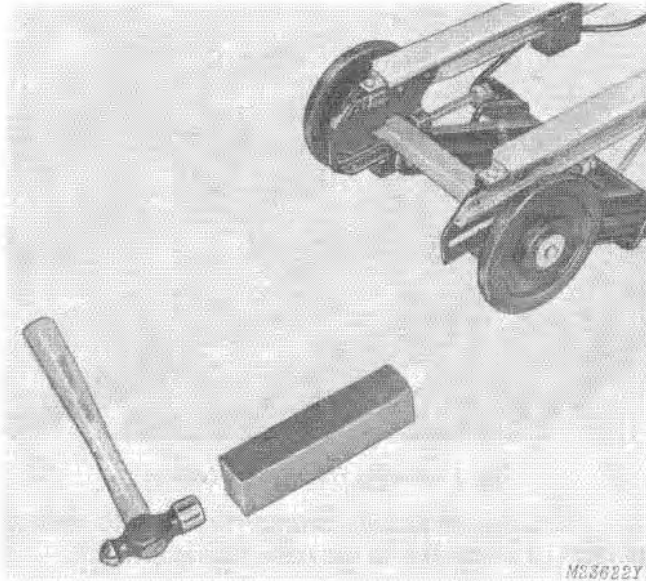

Fig. 5-Removing Slide Wear Bar
3. Use a wood block and hammer to remove the wear bar, Fig. 5.